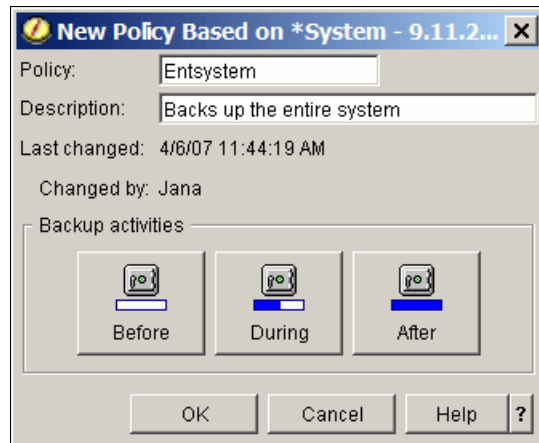

Figure 6-46 Specify name of new backup policy for entire system
- This displays the window *New Policy Based on *System*. On this window, insert the name of new backup policy, as shown in Figure 6-46.